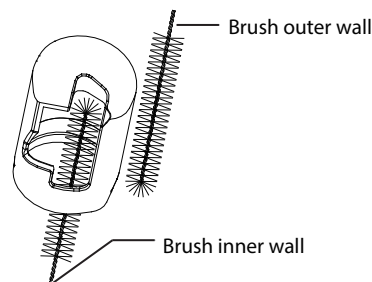

Figure 5-21 Brushing the Distal End Cap
- d. Use the channel-opening cleaning brush to brush all parts of the distal end cap in accordance with Figure 5-21. Repeat the step at least 3 times to remove all debris.